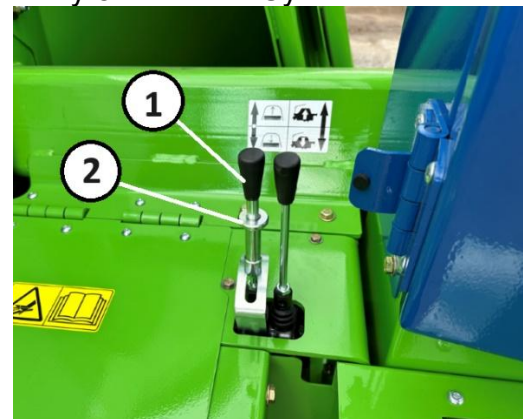

Figure 72. Tunnel Cleanout Lever
7. With the PTO off, lift the safety collar and push the lever to the tunnel cleanout open position and lock it into position. See Figure 72.